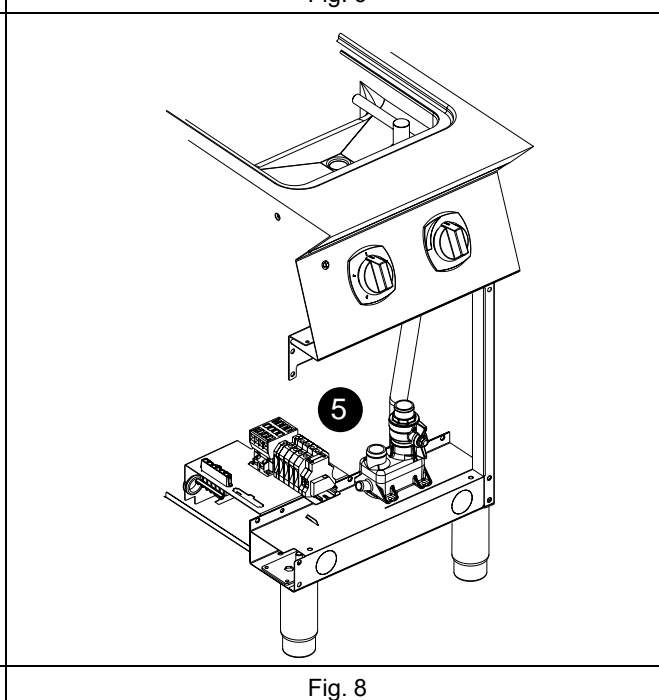

Fig. 8
5. Connect the power cable to the terminal block according to the wiring diagram provided with the appliance (see detail 5 —Fig. 8).